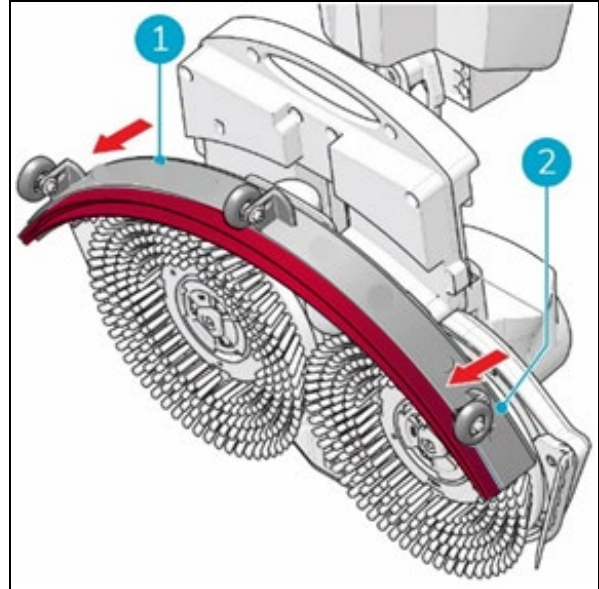

Figure 35
3. Pull on the left side of the squeegee (Figure 35, pos 1) to remove it.
4. Pull on the right side of the squeegee to remove it. (Figure 35 pos 2.)